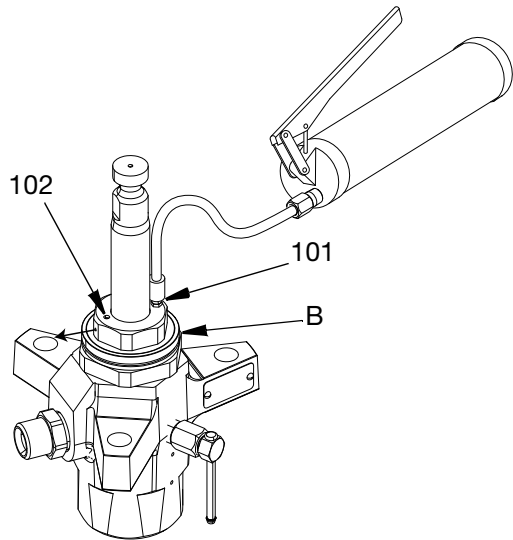

FIG. 6
1. Loosen M5 SHS EXT screw (102) two turns to permit grease to circulate through pump correctly.
2. Attach grease gun to grease fitting (101) until fresh grease is observed to come out grease relief hole below the M5 SHS EXT screw (102). See FIG. 6.